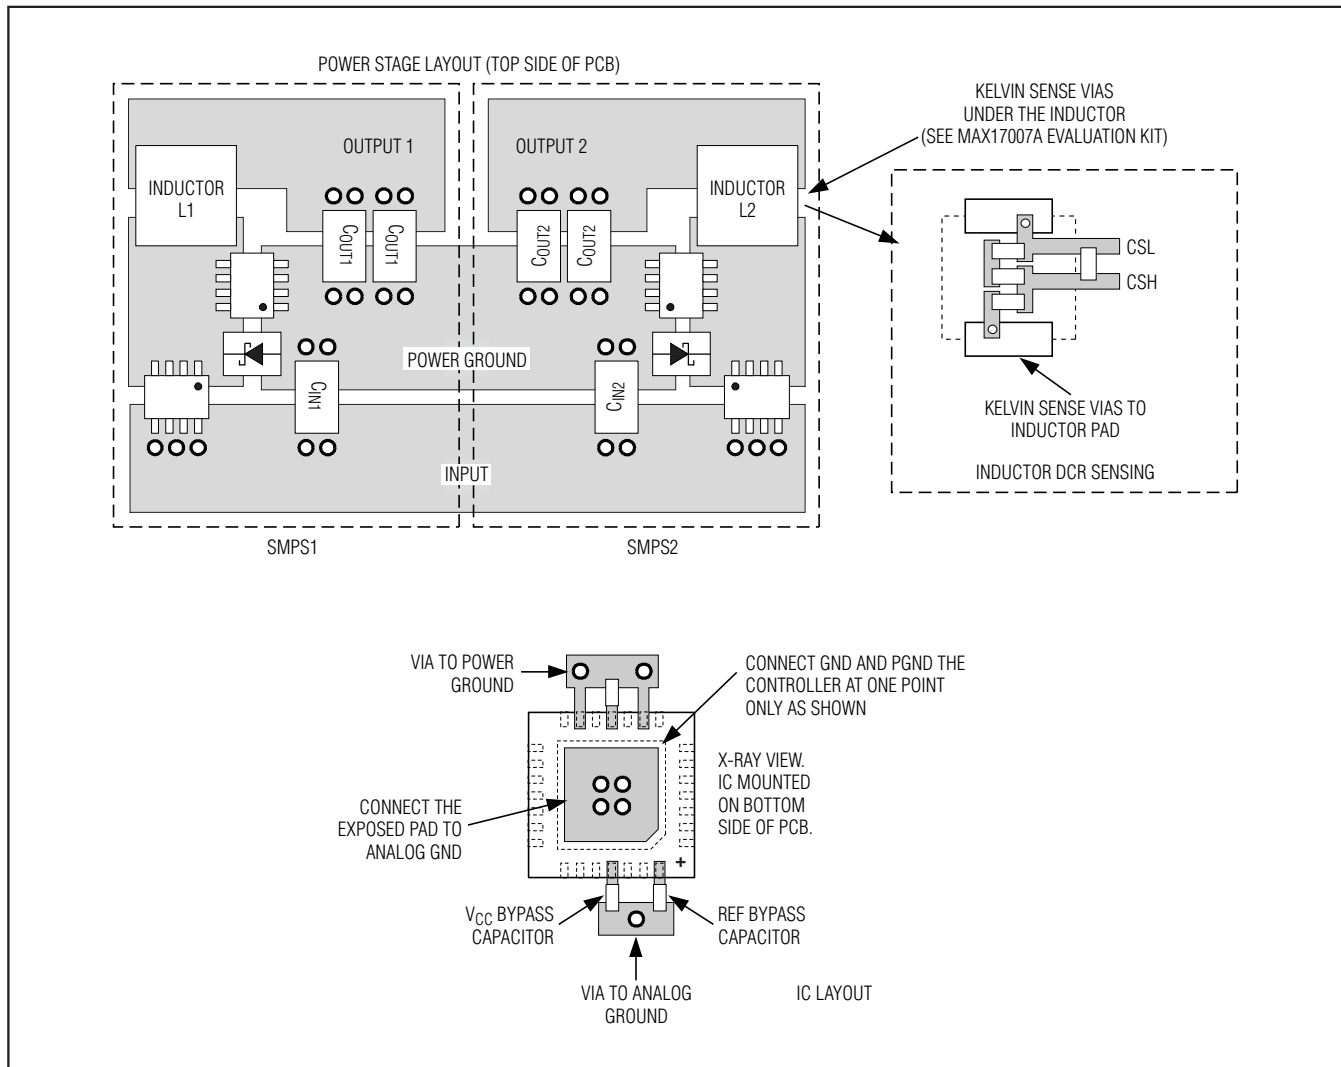

Figure 15. PCB Layout Example
- 5) Connect the output power planes (V_{OUT} and system ground planes) directly to the output filter capacitor positive and negative terminals with multiple vias. Place the entire DC-DC converter circuit as close to the load as is practical. See Figure 15.